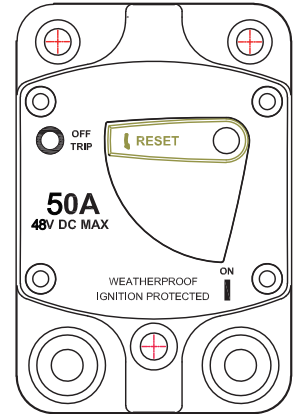

Figure 3-1
- Basic Operation:** The front of the circuit breaker is shown in Figure 3-1. Move the yellow RESET handle to the “OFF/TRIP” position to disconnect the DC 48V positive connection between the propeller and the battery; move it to the “ON” position to restore the connection.